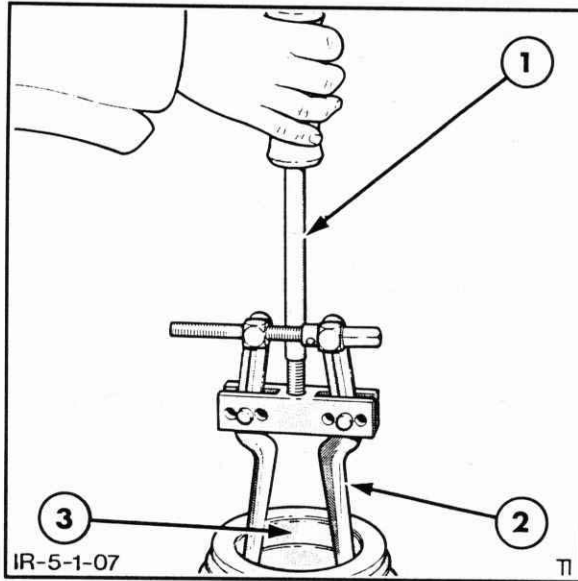

Figure 5-7
3. If necessary, remove the axle shaft outer bearing cup from the housing using Tool #943 or 9507 and 943S or 9567, Figure 5-7.